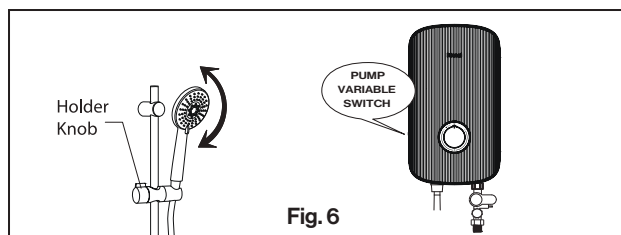

Fig. 6
7. Move the Handshower to desired angle. A ratched mechanism in the Shower Holder will hold the Handshower in selected position. (Fig. 6)
- Turn on the Pump Control Knob to test on Pump's functionality (located at side). If the shower is not hot enough, you may adjust the pump speed until the desired shower temperature is obtained. (Fig.6)